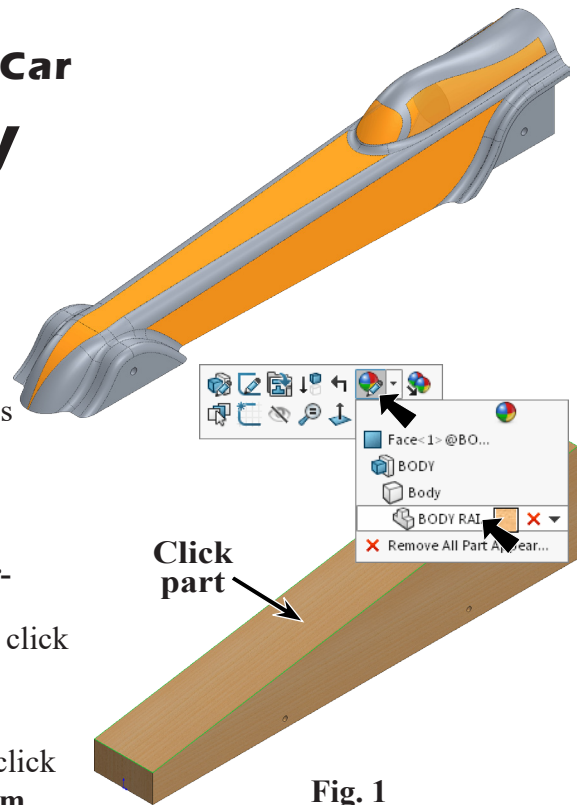

Fig. 1
- Step 1. Click the Body to select the part, click **Appearances Callout**  on the context toolbar and click **BODY RAIL** , Fig. 1.